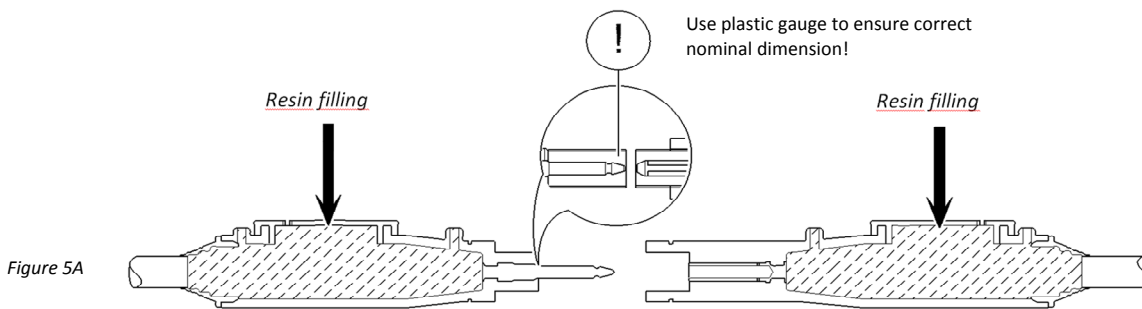

Figure 5A
**Step 3:** Repeat similar procedure of **Steps 1 and 2** above for the other half of the cable. Afterwards, crimp the socket to the cable's core conductor as seen below (4A). Connect plastic guiding pin onto socket before placing assembled piece inside the receptacle elastomer housing. Socket shall be at same level as the bottom of the socket housing; see detail on Fig. 5A. Secure end cap to housing (4B). Verify socket placement using the plastic gauge. Take plastic guiding pin away after assembling.